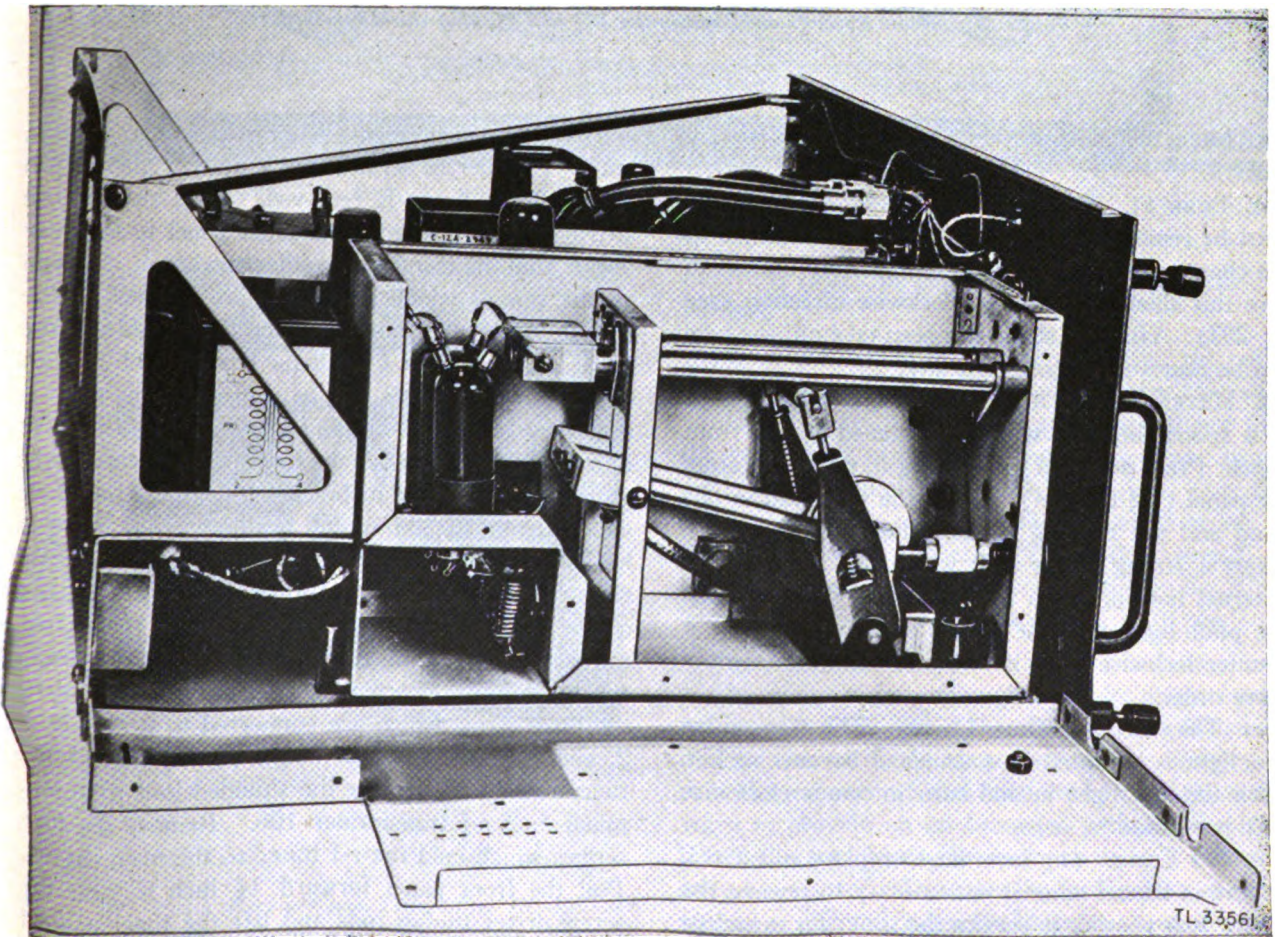

Figure 199. Radio Receiver and Transmitter BC-1267-A, side of oscillator box removed.
**e. R-F OSCILLATOR BOX.** To gain access to the r-f oscillator unit box, loosen the four captive screws which hold the cover in place, then remove the cover. If further access is required, the side of the r-f oscillator unit box may be taken off. Remove the shield which covers the modulator transformer terminals. Remove the 16 screws which hold the side of the oscillator box to the chassis and front panel. This allows the entire side to be removed (see fig. 199).